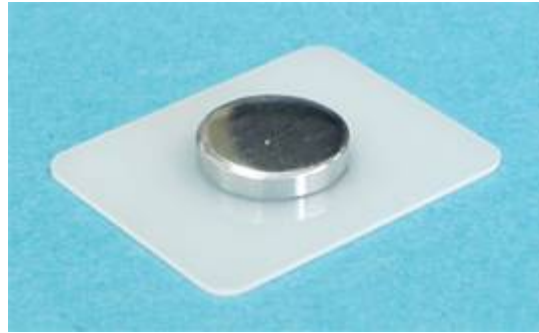

Fig. 2-62
- Samples having sizes more than 10-15 mm should be mounted onto the adapter substrate (Fig. 2-62). The standard substrate with a glued to it adapter wafer which is about 2 mm thick can be used as well. The wafer thickness should provide that the sample raises above the stage clips while the wafer width should be less than the distance between clips. In this case the sample is mounted onto the adapter wafer;